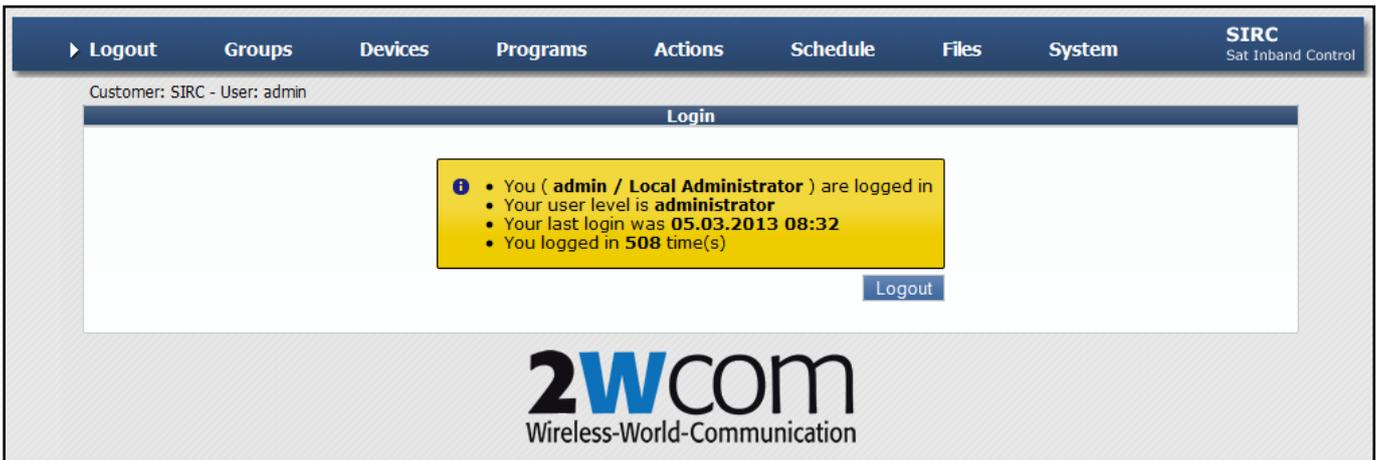

Figure 3: SIRC main screen
- ⇒ After a successful login the actual user information and the main menu will be displayed (see Figure 3).